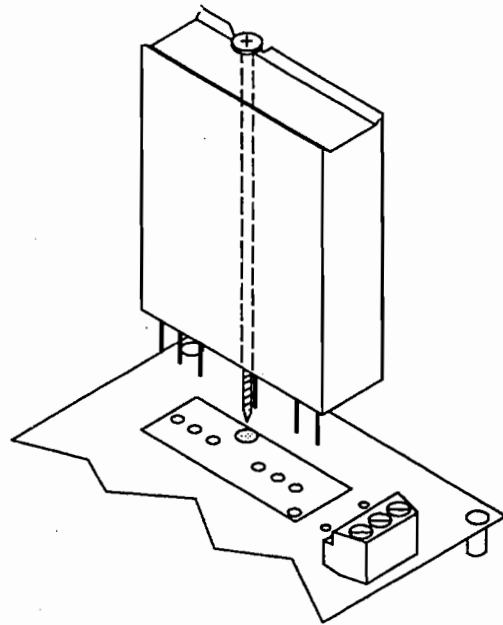

Figure 2-1. Installing a Module
3. Tighten the retaining screw. Refer to Figure 2-1.